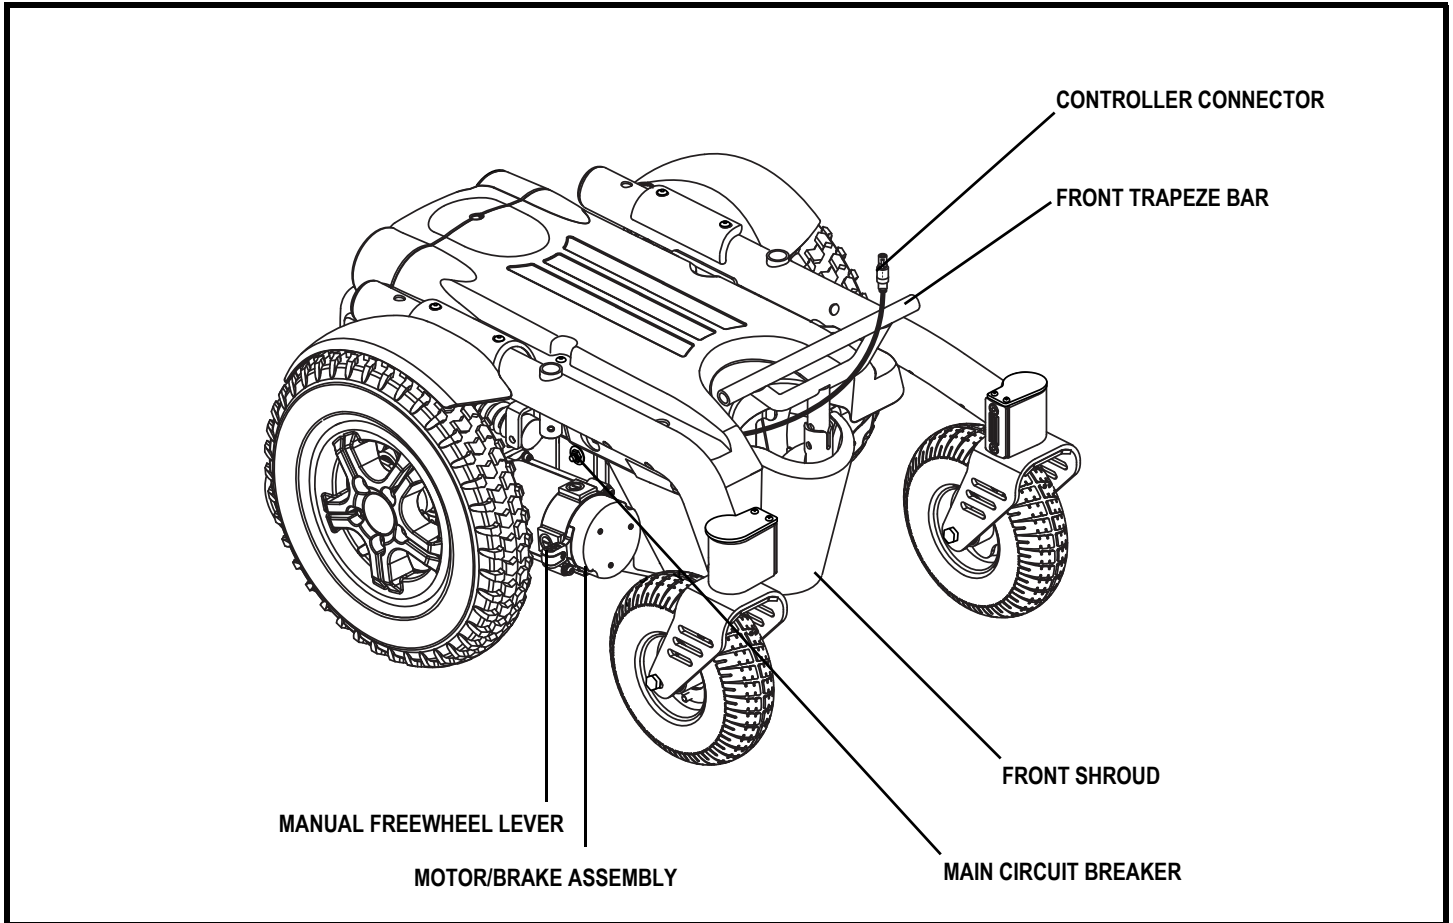

Figure 6. The Quantum R-4000 Power Base
The electrical components are located on the front of the power base or on the battery door at the rear of the power base depending on the power chair electrical system. See figures 6 and 7.
Controller Connector: This is where the controller connects to the power base. The controller connector is located at the front or rear of the power base. See figure 6.
8. Plug the controller harness into the connector. See figure 6.
4. Disconnect the controller connector. See figure 6 or 7.
4. Disconnect the controller connector(s) from the power base. See figure 6.